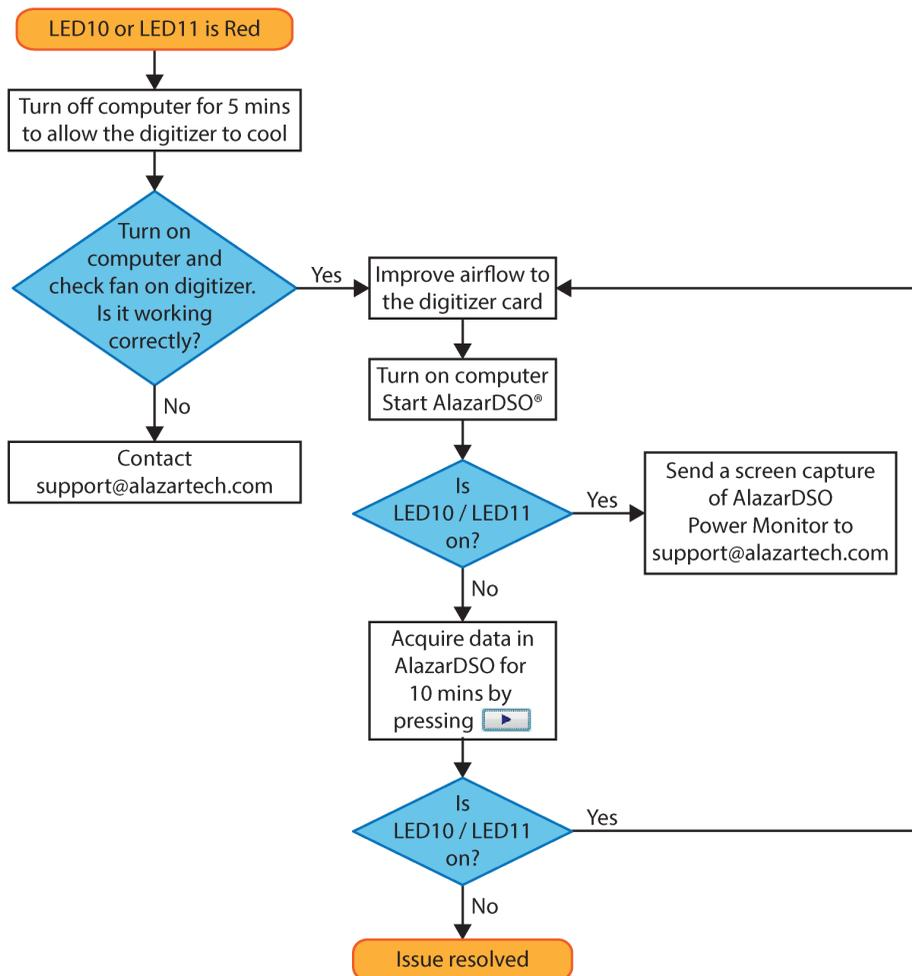

Figure 4 - Flowchart for Power Monitor Status LEDs
- **LED10:** This LED being red means that there is an issue with one or more on-board power supplies. More details are available in the Power Monitor plug-in of AlazarDSO (for Windows) and AlazarFrontPanel (for Linux). Refer to Figure 4 - Flowchart for Power Monitor Status LEDs for steps to follow if this LED is red.
- **LED11:** This LED being red means that there is an issue with one or more on-board power supplies. More details are available in the Power Monitor plug-in of AlazarDSO (for Windows) and AlazarFrontPanel (for Linux). Refer to Figure 4 - Flowchart for Power Monitor Status LEDs for steps to follow if this LED is red.